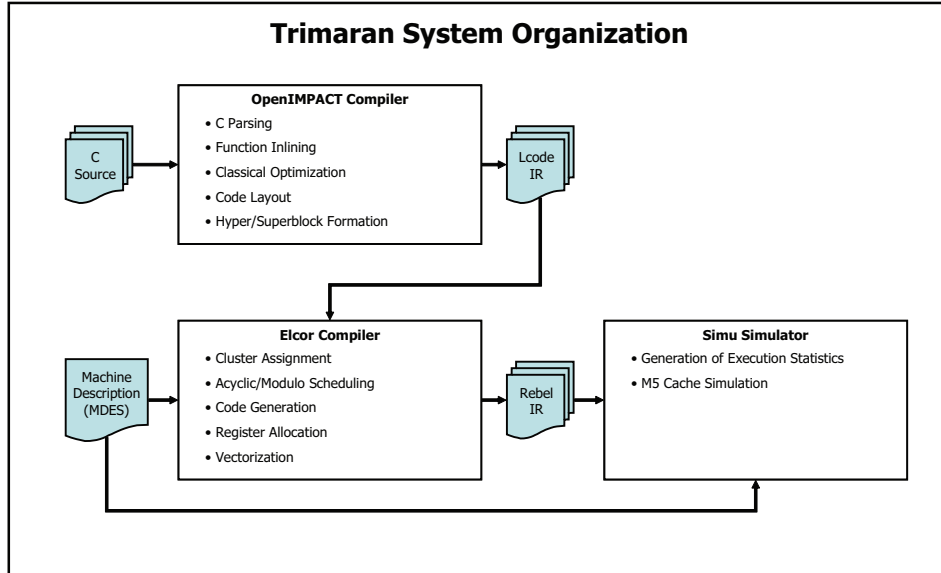

Figure 1: Overview of compilation steps in Trimaran.
Trimaran is comprised of three components: the OpenIMPACT compiler, the Elcor compiler, and the Simu simulator (shown in Figure 1). Trimaran uses OpenIMPACT to compile the original source code into an assembly intermediate representation (IR) called Lcode. The Lcode produced is optimized for ILP, but not for a specific machine. This code is then passed to the Elcor compiler, along with a machine description (MDES) that specifies the target machine. Elcor compiles the code for the target machine, producing another IR called REBEL. The Trimaran simulator known as Simu consumes the REBEL code, executes the code, and gathers execution statistics.